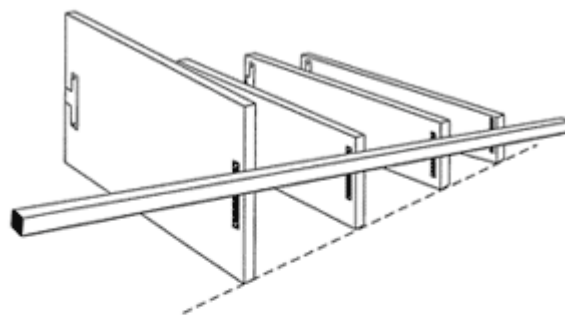

Figure 2
3. Continue adding progressively smaller shelves to the right side until all four are attached with the smallest shelf on top (Figure 2).